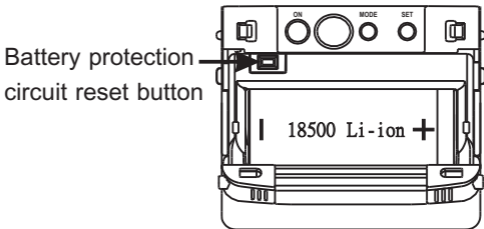

Fig. 34
- (A) Insert the transmitter into the single or dual-docking battery charger for at least 10 seconds. Power on the transmitter.
- (B) Insert battery with incorrect polarity first. Remove and re-insert again with correct polarity.
- (C) Open battery compartment, press the battery protection circuit button as shown in Fig. 34. Power on the transmitter.